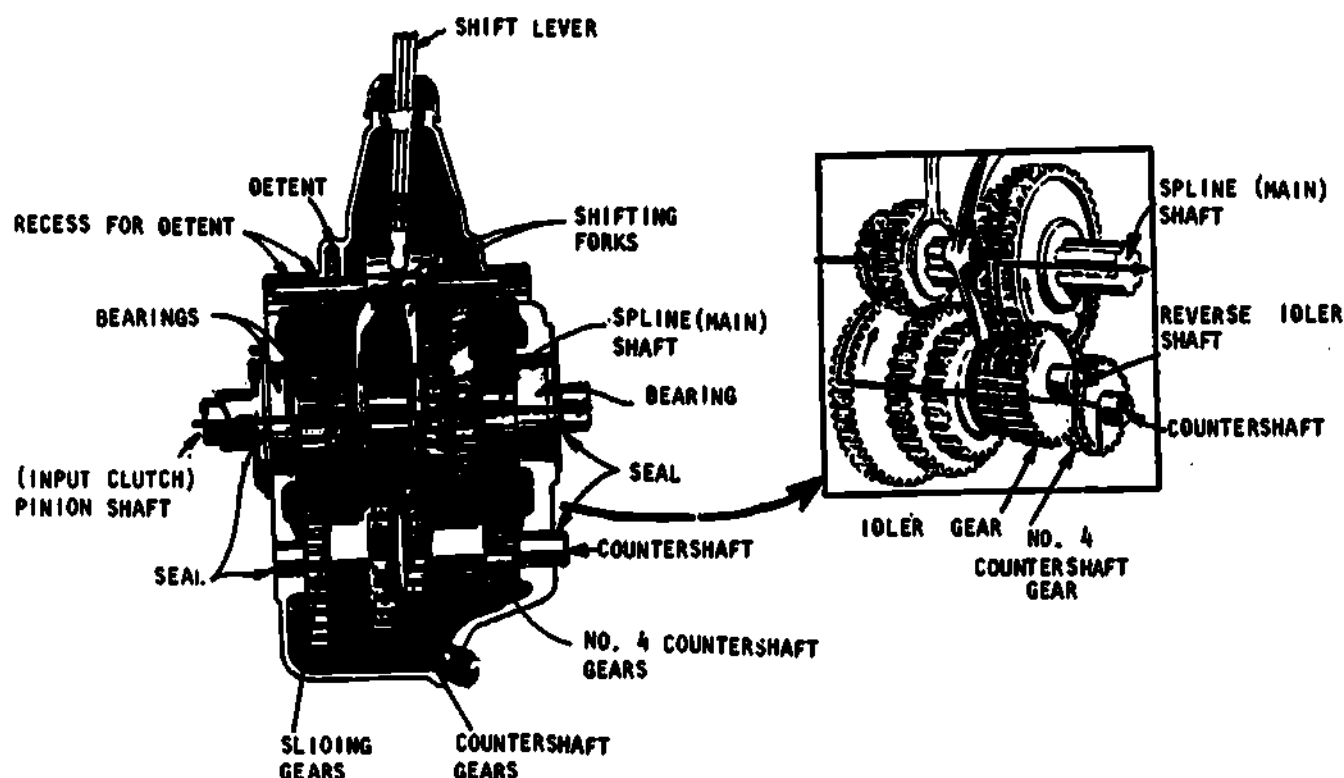

Fig 3-13. Four-speed sliding-spur-gear transmission.
a. **Sliding-spur gear (Fig 3-13).** This type of transmission has straight spur gears that mesh with other straight spur gears. It is designed so that some of the gears slide along a splined shaft while other gears are held in position. Forks, controlled by linkage or a lever, move the gears in and out of mesh. Detents hold the forks in position until the operator moves them for another gear selection. Some transmissions may have the detents hold the gear rather than the forks. The transmission shown in figure 3-13 has four forward speeds and a reverse. Other sliding-spur-gear transmissions are very similar.